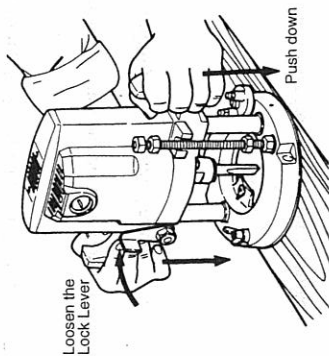

Fig. 6
- (2) Loosen the lock lever, push down the router body until the bit tip slightly contacts the surface of the workpiece, and then clamp the lock lever. This state is termed "cut 0 (zero)." (Fig. 6)